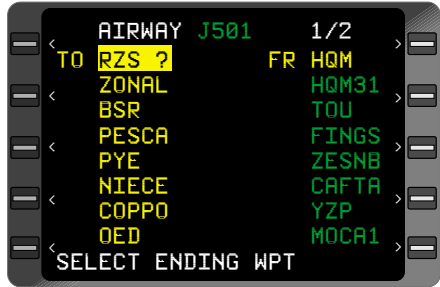

Figure 3-38
- c. Line Select Key - DEPRESS to position cursor over the desired destination waypoint. (Figure 3-38). If applicable, use **PRV** and **NXT** Keys to access all airway waypoints pages.